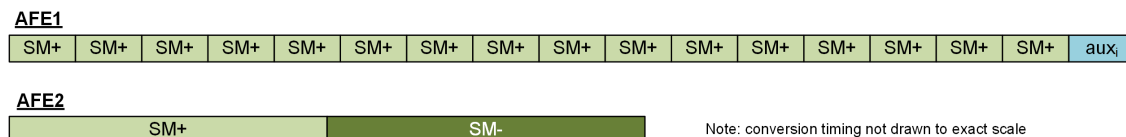

Figure 32: Sequencer Illustration for AFE1 and AFE2
The fast reaction of the bridge sensor input is achieved through AFE1, which runs at low resolution (10 bit) and highest update rate. AFE2 runs on high resolution (SM+/SM- sequencer, 16bit) and a slower update rate according to Table 39. Figure 32 illustrates the sequence of AFE1 and AFE2 measurements.
- The aux_i cycle in the sequencer becomes automatically activated if T1 or PTAT are selected. If no temperature sensor is selected, the aux_i cycle shown in Figure 32 is removed.